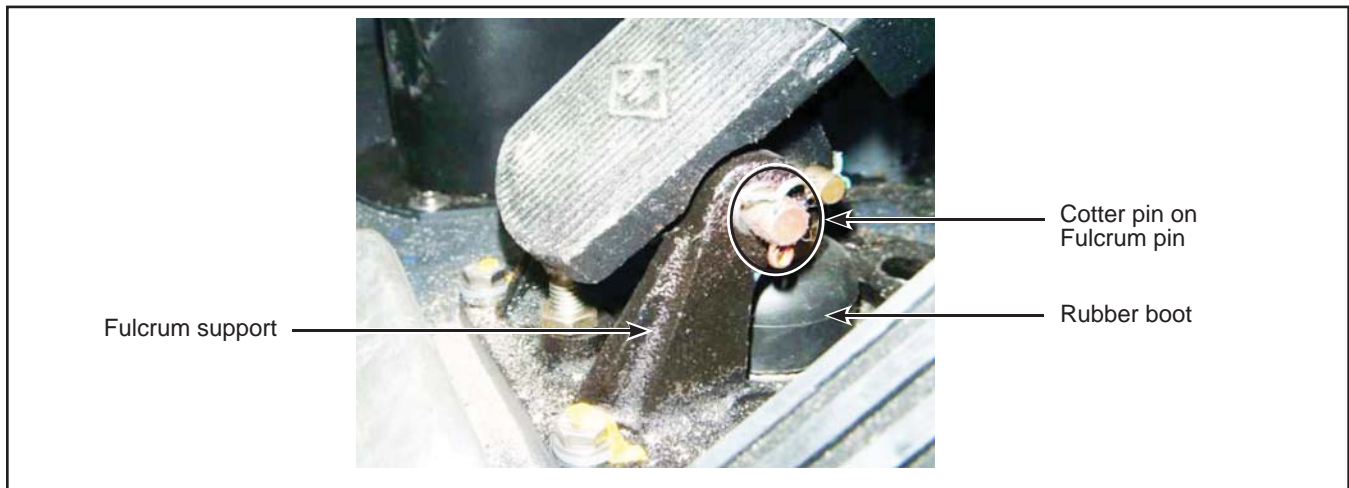

Figure 2 - Rubber Boot and Treadle Fulcrum Pin
1.2. Remove and dispose of the fulcrum pin cotter pin. See Figure 2.